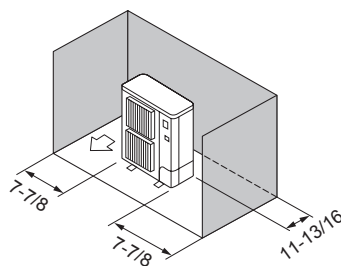

Fig. 2-8
③ Obstacles at rear and sides (Fig. 2-8)